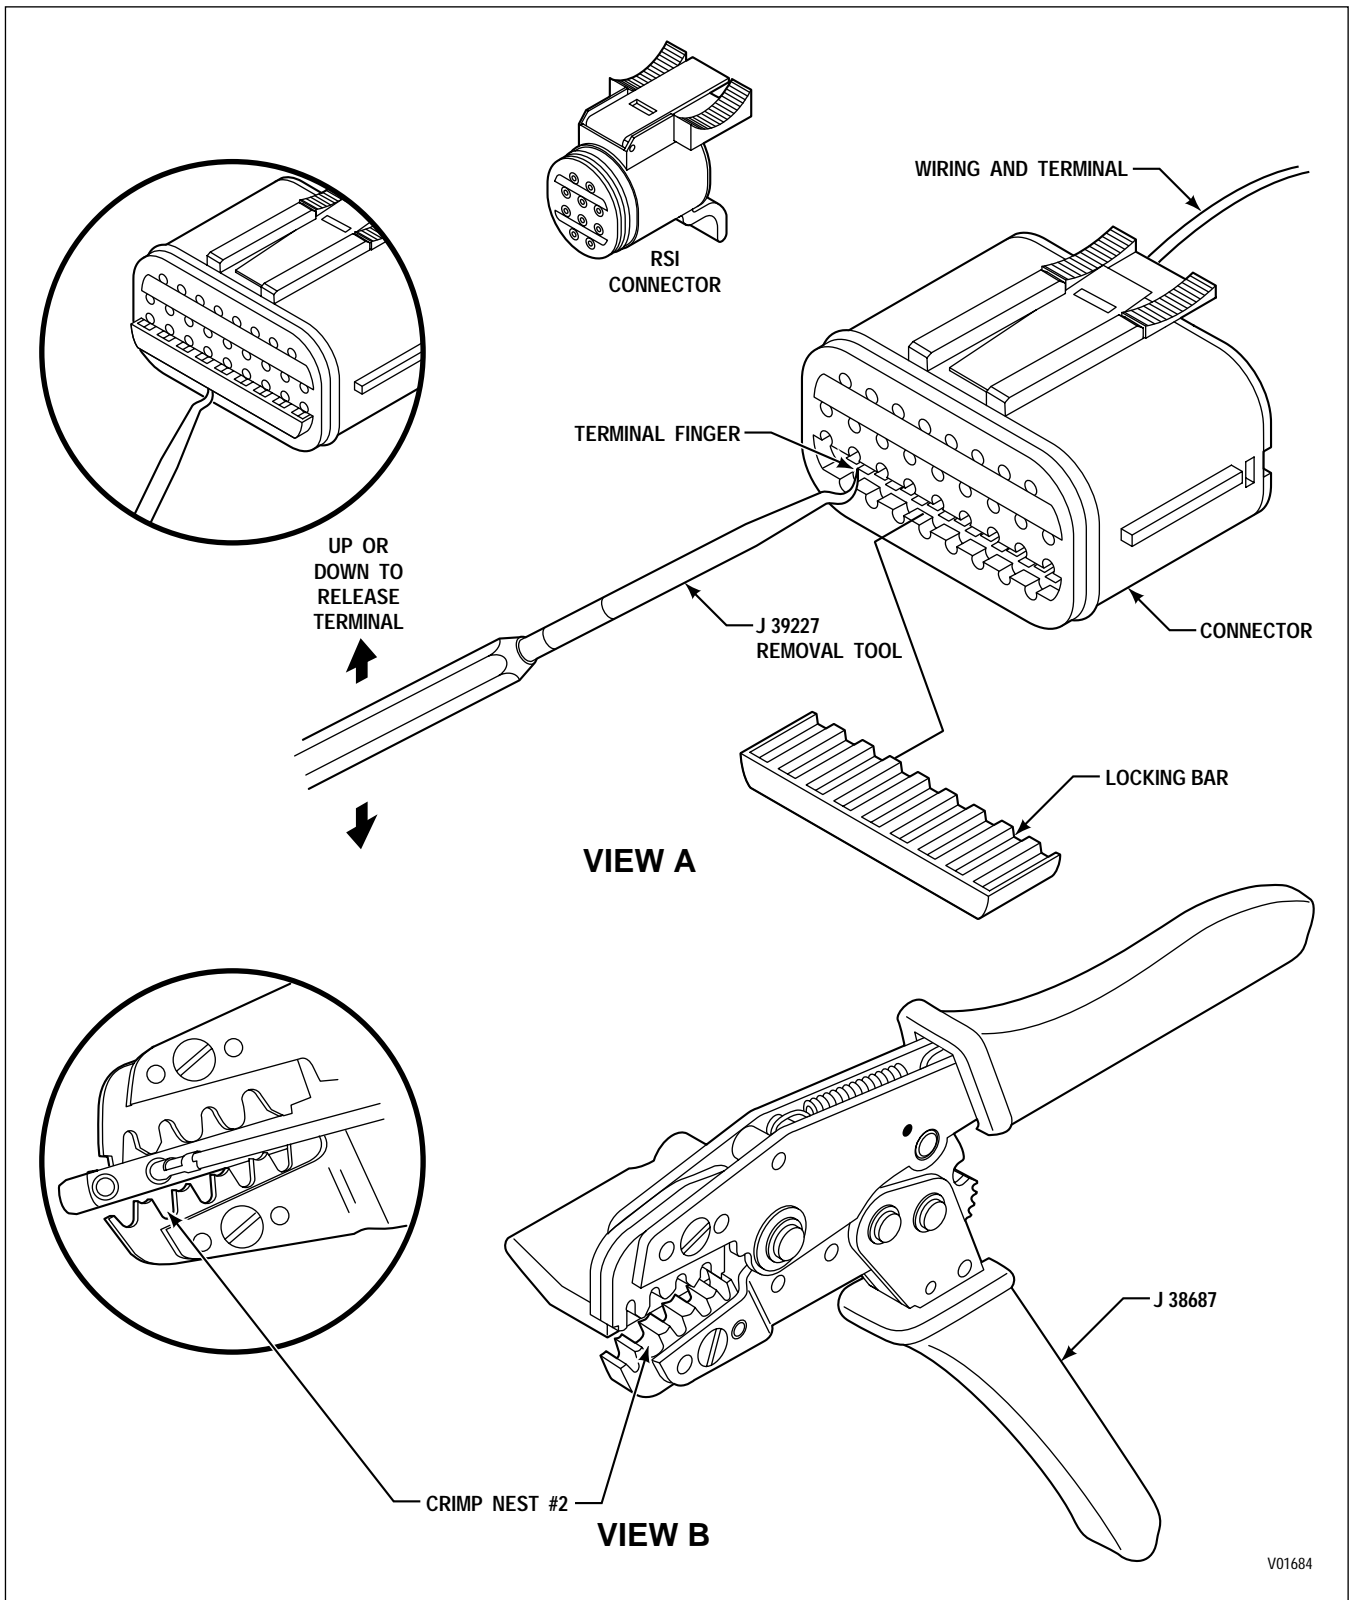

Figure E-1. Thomas & Betts ECU Connector, RSI Connector
1. Remove the locking bar(s) from front of the connector (Figure E-1, View A).
2. Insert a terminal into Crimp Nest No. 2 of crimping tool J 38687 (Figure E-1, View B).